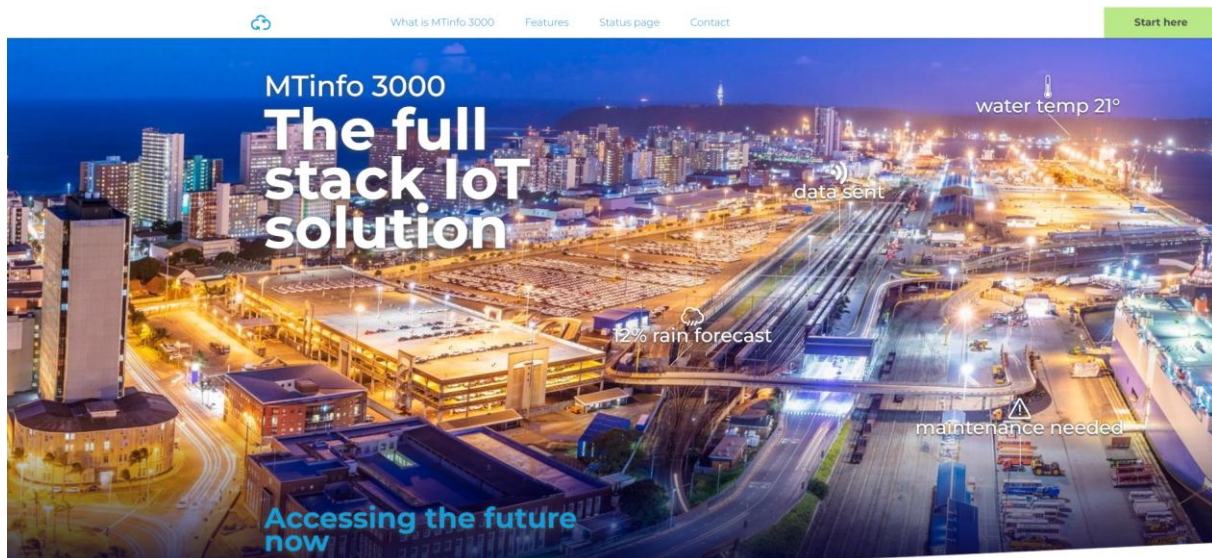

Figure 1 Landing page MTinfo 3000
2. Click 'Start here' in the upper-right corner of the landing page (see Figure 1).